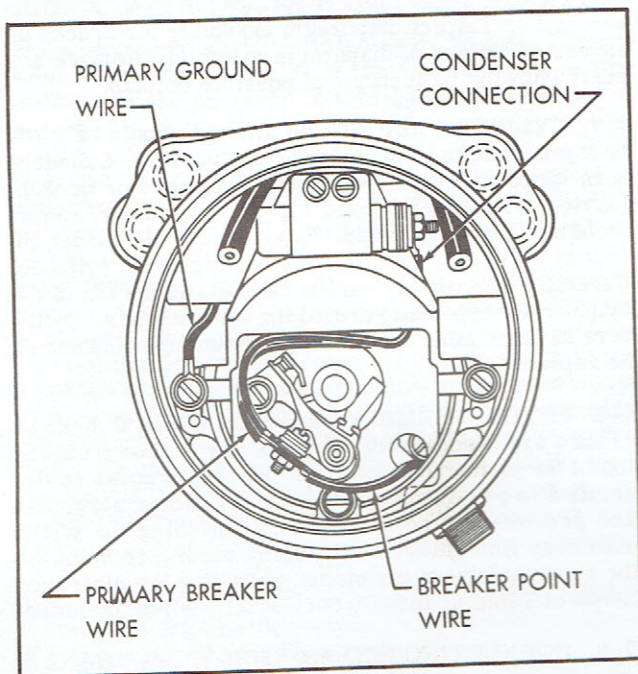

Figure 8-1. Magneto Wiring
- a. Install coil and lamination assembly (57) in body (50) loosely with screws (58) and washers (59). Temporarily insert rotor (52) and, using wooden wedges, pry laminations outward and install roll pins (56). Tighten screws.
- b. Press bearings (54 and 55) to shoulders on shaft (52) and press the assembly into retainer (48).
- c. Attach bearing retainer (48) to magneto body (50) with screws (45) and washers (46).
- d. Install oil seal (53). Secure impulse coupling (36) on rotor shaft (52) with key (51), washer (35) and nut (34).
- e. Slip breaker (33) over pivot pin (47) and secure with screw (30) and washers (31 and 32).
- f. Turn rotor shaft (52) until the breaker point follower block rests on the highest part of one of the cams.
- g. Loosen screw (30) until breaker (33) moves freely.
- h. Place an 0.022 feeler gage between the breaker points and move breaker up or down until a slight drag is felt on the gage when sliding it between the points. Tighten screw (30) and recheck points for 0.022 gap.
- i. Connect wiring as shown in figure 8-1.
- j. Turn rotor shaft (52) several times to make certain it does not bind at any point. Binding is usually due to uneven tightening of bearing retainer (48) to magneto body (50).
- k. Install the distributor rotor (17) by aligning the rotor bore with the keyway on rotor shaft (52). Gently press rotor on shaft, or tap lightly into place with a soft mallet.
- l. Clamp the entire assembly in a vise by one of the mounting lugs. Turn the impulse coupling (36) in its normal direction of rotation to determine that it snaps freely without binding.
- m. Install the distributor cover (16) and secure with retainer clamps (42). Insert the spark wires and shielding harness assembly into the two holes in each side of the magneto and secure by screwing in the mounting connector.